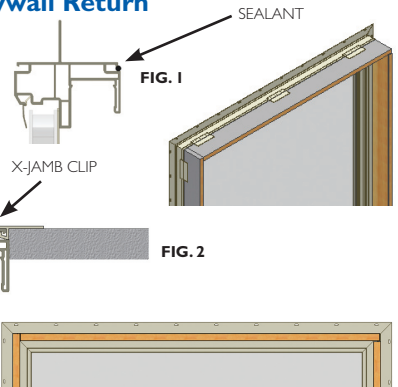

FIG. 3
- Position the jamb extension as shown against the clips and staple or screw through the clip into the backside of the jamb extension. (Fig. 3)
- Wrap jamb extension application as shown. (Fig. 3)